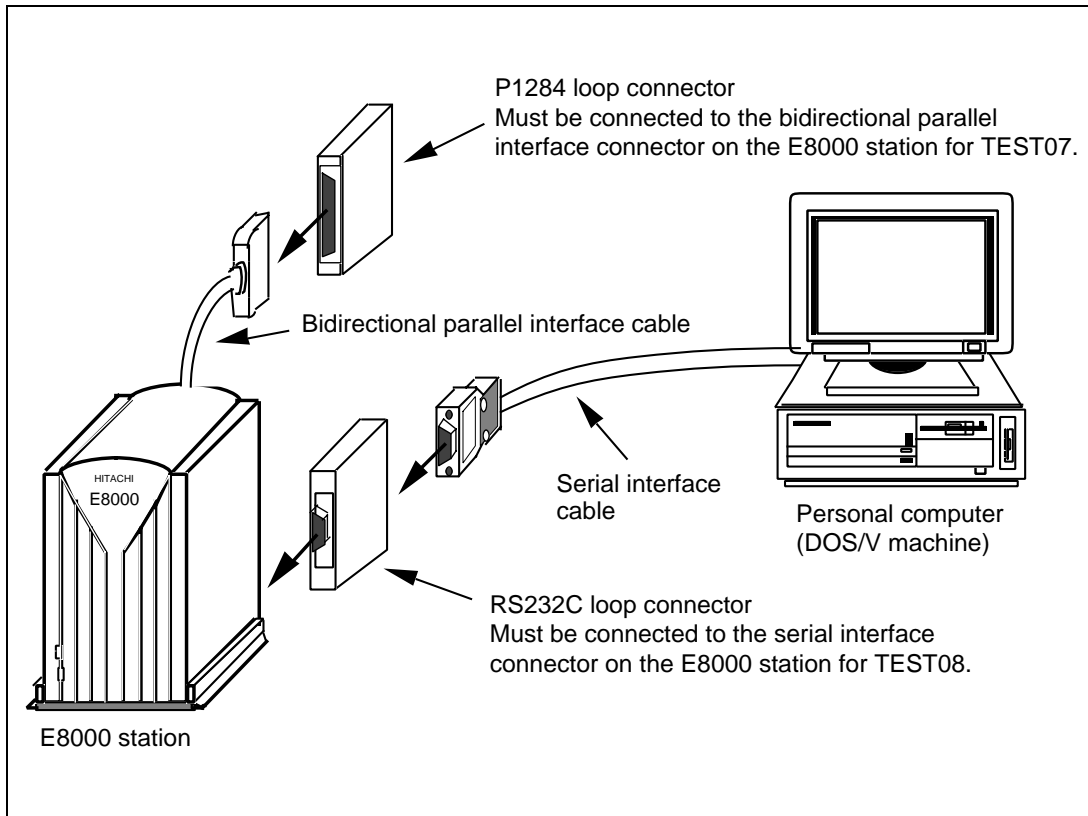

Figure 4.5 Loop Connector Installation
(1) Before executing the diagnostic program, install the P1284 loop connector, as shown in figure 4.5.
(2) Enter Y to the following message at diagnostic program initiation:
(1) Before executing the diagnostic program, install the RS232C loop connector, as shown in figure 4.5.